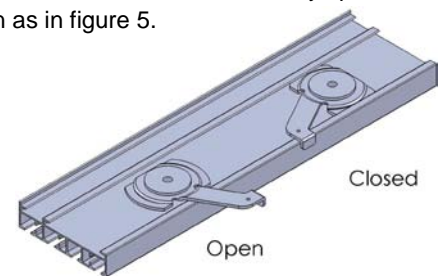

Figure 5.
- Locate the wall stud and attach the extension brackets to the wall. Use necessary anchors if required. Make sure brackets are level. If the panel track requires more than two brackets, place the extra brackets leveled and evenly spaced between the two end brackets. Make sure to leave the brackets in the open position as in figure 5.
With the brackets installed and in open position (fig. 5), place the track onto the brackets. The bracket arms may have to be rotated slightly to allow the track to fully engage the brackets. Start in the center and push the track straight up into the brackets. Rotate the bracket arms to the closed position.